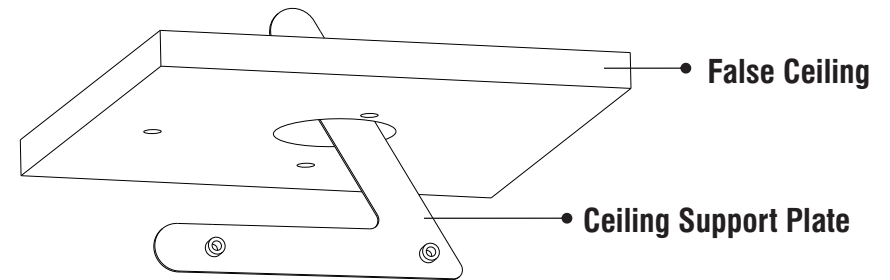

Figure6
- Insert the Ceiling Support Plate through the 50mm diameter hole as shown in **Figure:6**